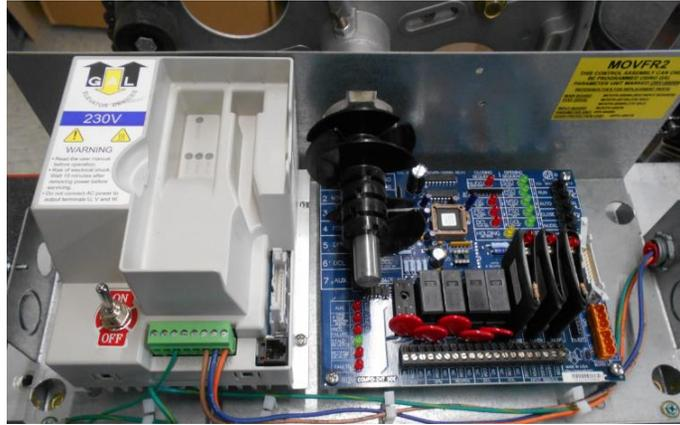

Figure 17 - MOVFR-0069N
- Remove the Control Board and Drive shown in Figure 17 - MOVFR-0069N